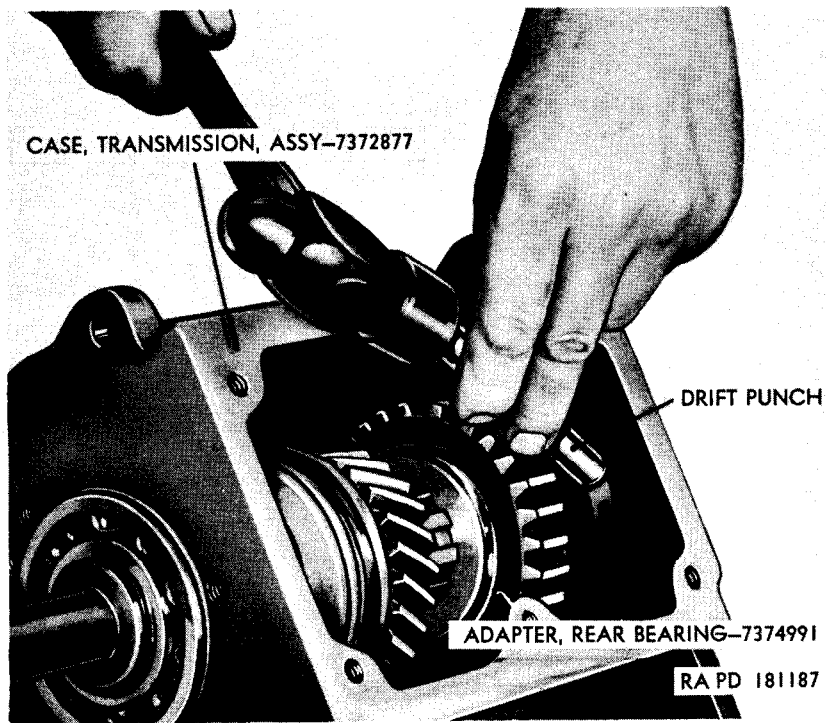

Figure 51. Removing transmission main shaft rear bearing adapter.
a. *Remove Main Shaft Rear Bearing Adapter* (fig. 51). Using a suitable drift, tap the main shaft rear bearing adapter from the transmission case assembly.